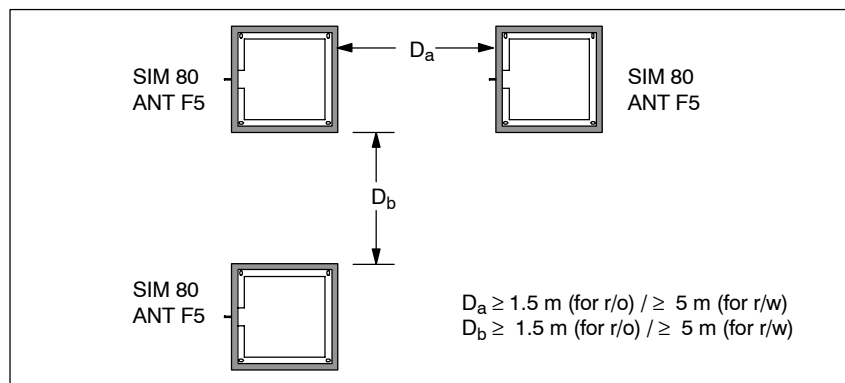

Figure 6-58 Distance D for SIM 80 ANT F5
Minimum distance from ANT F5 to ANT F5 (D)	See figure 6-58.